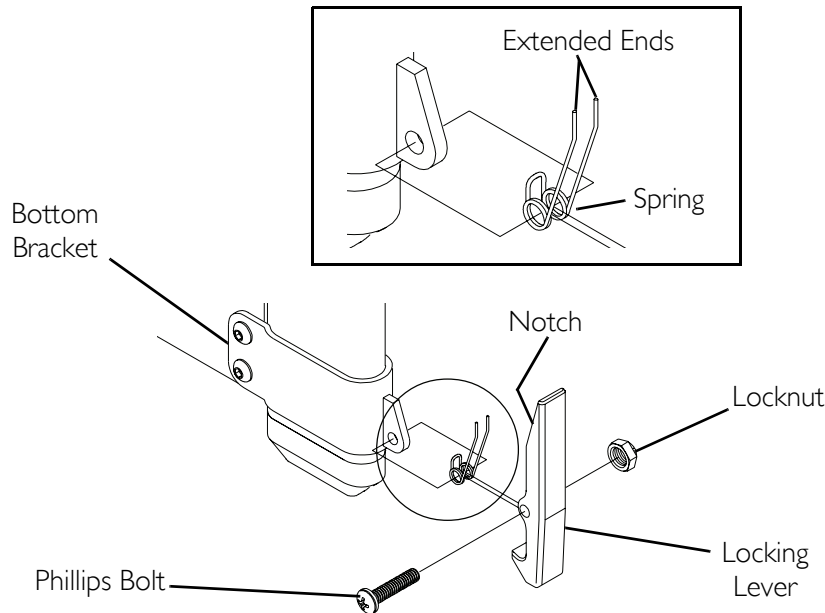

FIGURE 6.8 Replacing the T-Arm Locking Lever
NOTE: For this procedure, refer to FIGURE 6.8 on page 48.
4. Position the spring on the bottom bracket as shown in FIGURE 6.8.